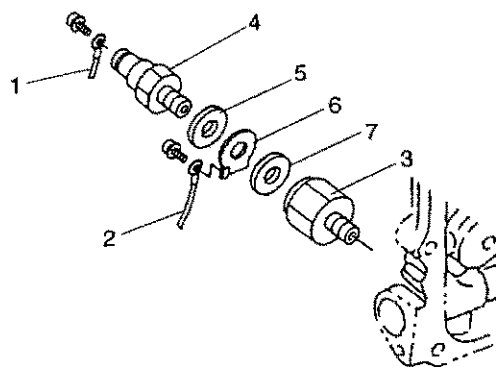

Fig. 5.2.5 Oil pressure sender unit components
⑧ Remove front housing 11.
- Only the procedure for the oil pressure sender shown in Fig.5.2.5 is described here as there are many work scopes and component parts for the engine. For other procedures, refer to the service manual referred to in the INTRODUCTION.
- ① Disconnect leads 1 and 2.
- ② Loosen insulator joint 3 and remove oil pressure sender 4 together with washer 5, ground terminal 6 and rubber washer 7.